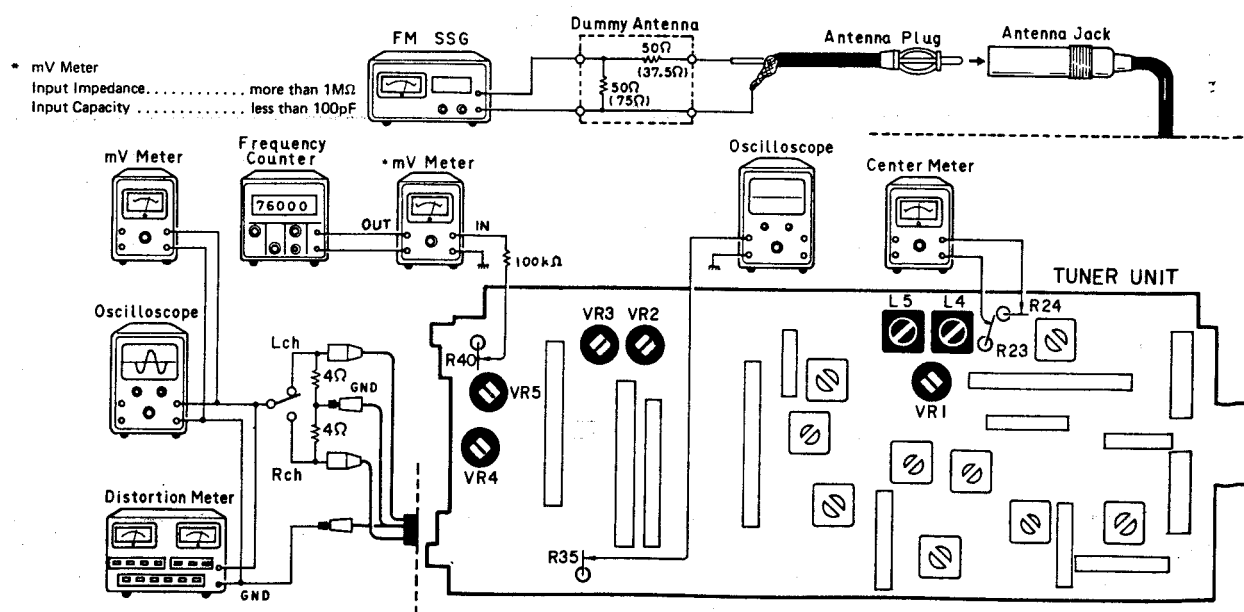

Fig. 19
• Connection Diagram (Shown in Fig. 19)